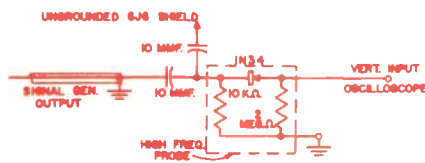

FIG. 9. OSCILLATOR ALIGNMENT
5. With circuit as shown in Fig. 9 connect the generator to one of the 10 mmf capacitors and connect the other 10 mmf capacitor to the ungrounded tube shield over the 6J6. Connect remaining terminal on probe to vertical input on oscilloscope.